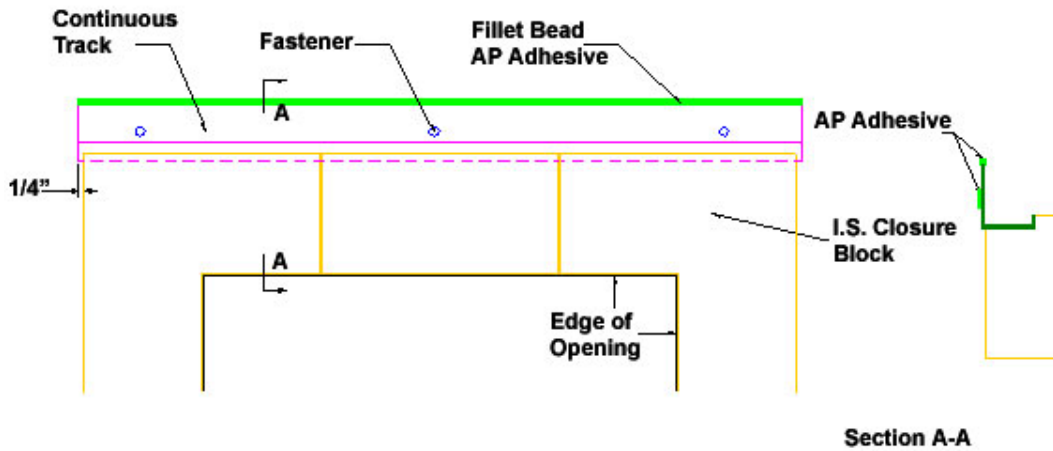

Figure 26
- i. Cut a piece of Dryvit Track to length so that it extends 1/4 in (6.4 mm) beyond the edge of the Closure Blocks as shown in Figure 26. **NOTE: The Dryvit Track must be continuous. Do not splice!**